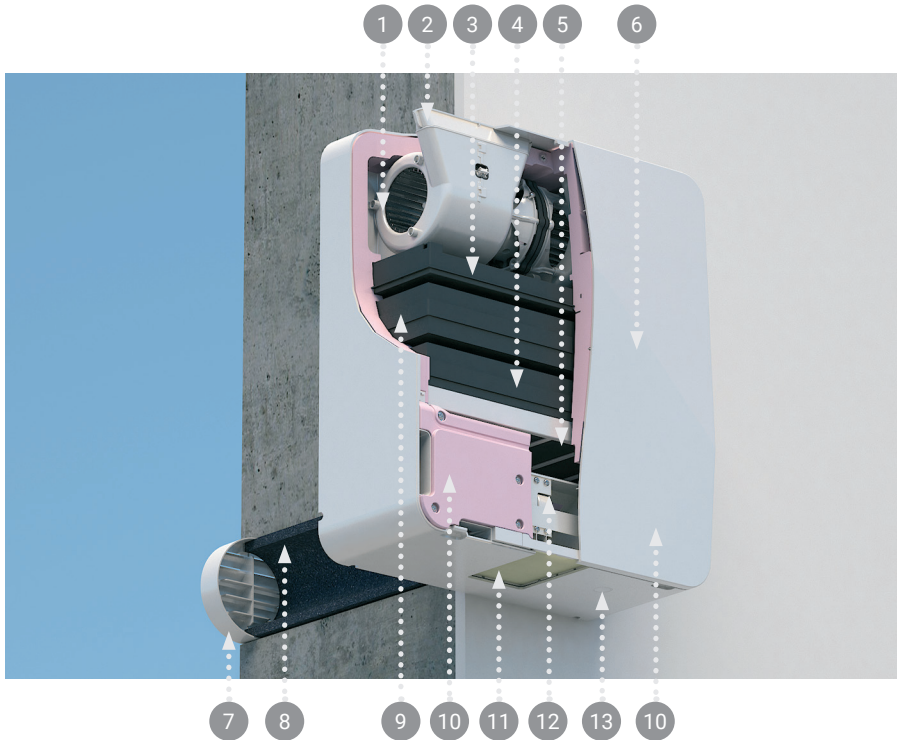

Figure 5.1 – Composition of the device
Figure 5.1 shows a composition of the Tion Breezer 3S.
The device is mounted on the wall with the air duct. Air from the street goes through it into the device. The air duct shall be protected by heat insulation (Fig. 5.1, p. 8). It is required that the duct has had a slope providing protection against the ingress of rain moisture into the device.
The air intake grid is installed on the air duct from the outside (Fig. 5.1, p. 7). To ensure maximum airflow throughput, the use of the Tion air intake grid being in the delivery set is recommended.
At the inlet of the device there is a shutter unit (Fig. 5.1, p. 12). It prevents from getting air into the room from the outside when the device is deactivated or operates in the "Recirculation" mode, and it is also required for the "Inflow" and "Mixed" air intake modes.
Air is supplied into the room by means of a fan (Fig. 5.1, p. 1), being an integral part of
the device. If required, the supply air can be heated by means of a heater11 (Fig. 5.1, pos. 3), and a step-by-step air purification takes place inside the device.
The "Inflow" air intake mode is a main mode installed in the device by default. Air in this mode is taken only through the air duct (Fig. 5.1, p. 7, 8).
During operation in the "Recirculation" air intake mode, the shutter of the air pipe closes the air duct leading to the street, and air goes into the device from the room through the prefilter (Fig. 5.1, p. 11). When switching to this mode, the heater is automatically deactivated.
The prefilter (Fig. 5.1, p. 11) keeps large household waste (fluff, hair, etc.) when the device operates in the "Recirculation" mode.
The base filter G4 (Fig. 5.1, p. 5) has an average dust holding capacity as regards synthetic dust of at least 90% (for particles with a diameter of 0.4 µm according to EN 779:2012).
The efficiency filter EPA E1112 (Fig. 5.1, p. 4) has an integral filtering efficiency value of at least 95% (for particles with a diameter of 0.1–1 µm, according to EN 1882-1:2009).
The adsorption-catalytic filter AK-XL (Fig. 5.1, p. 3) is designed to reduce the concentration of molecular atmospheric pollutants getting into the room along with street air.
The control button (Fig. 5.1, p. 13) is located on the front panel of the device next to the prefilter. The list of actions available for it is given in Table 5.1.